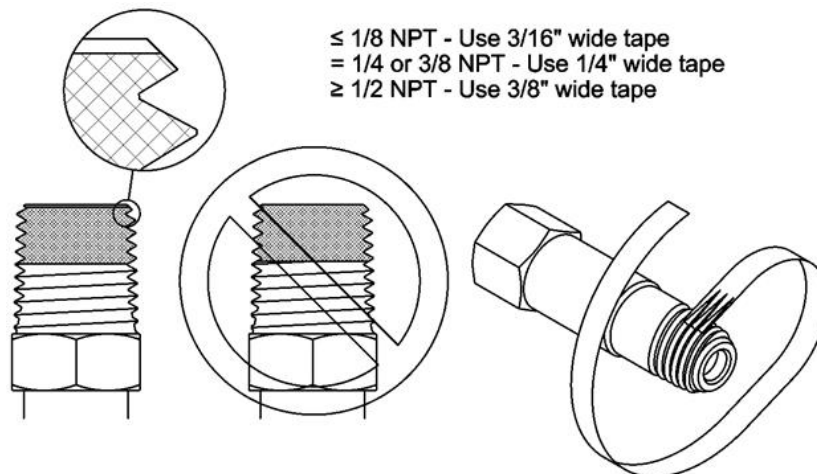

Figure 6 - Pictorial View of Tape Seal
- c. Be sure that all fittings are secure and leak tight. PTFE tape must be used on pipe threads. See Figure 6.
Use an open-end wrench, not a pipe wrench, to install accessories to the AutoSwitch system. **ALWAYS hold the bulkhead fitting with a wrench when installing the accessories to the AutoSwitch system. Do not allow the bulkhead fitting to turn; otherwise, connections inside the box may be loosened.** NPT connections require the use of PTFE tape on the threads to make a gas tight seal (see Figure 6). CONCOA uses PTFE tape on all of its NPT connections. Follow these rules when using PTFE tape.
- d. Start the PTFE tape on the first thread leaving a slight section of the chamfer exposed as shown in Fig. 6. Make sure the tape does not overlap the end of the fitting.